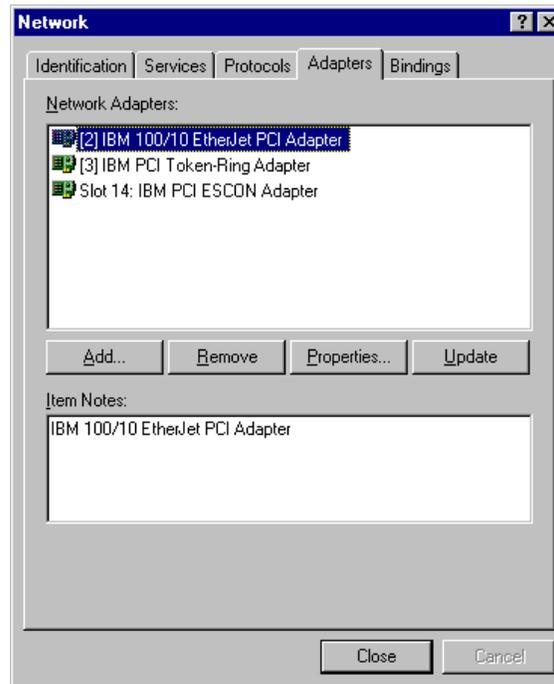

Figure 6-4. Adapter List with ESCON Adapter
- Click on the Adapters tab (Figure 6-4). Make sure the IBM PCI ESCON Adapter is listed. If not, you must install the adapter before installing TCP/IP Direct Connect (Refer to Page 7).